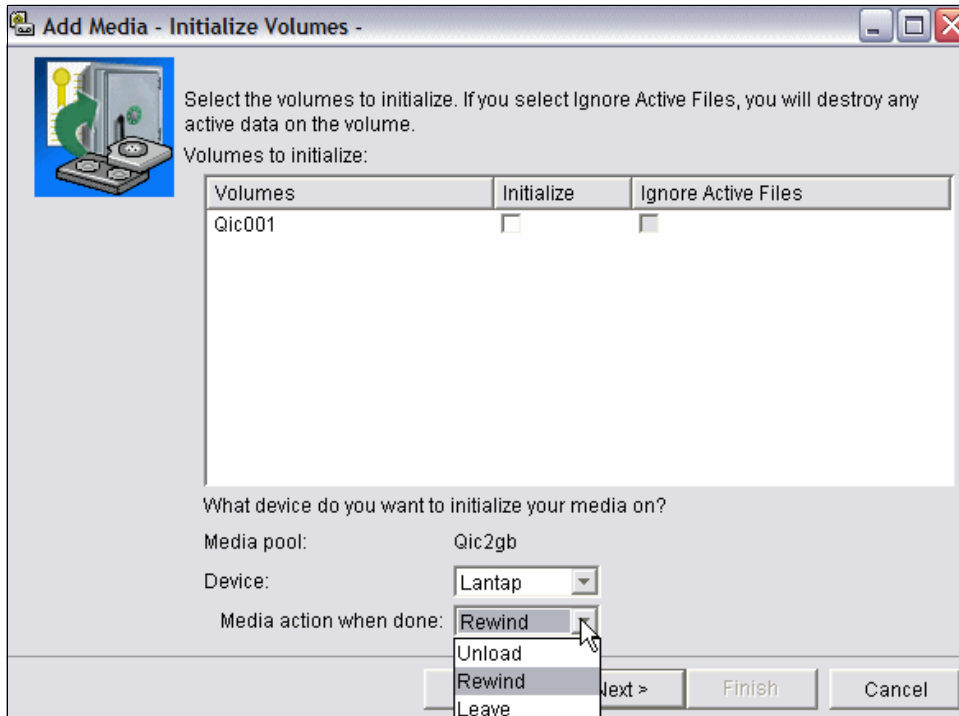

Figure 7-90 BRMS duplicating volumes, add physical media - initialize volumes
6. Initialize volumes in the window shown in Figure 7-90 on page 413. However, since the volume is already initialized in this scenario, skip that and click **Next**.